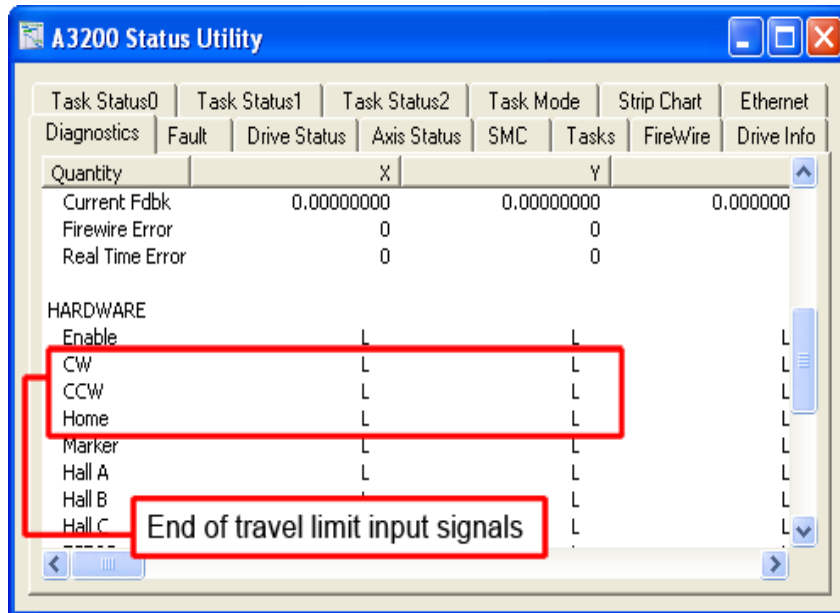

Figure 2-28: Limit Input Diagnostic Display
End of Travel (EOT) limits are required to define the end of the physical travel on linear axes. Positive or clockwise motion is stopped by the clockwise (CW) end of travel limit input. Negative or counterclockwise motion is stopped by the counterclockwise (CCW) end of travel limit input. The Home Limit switch can be parameter configured for use during the home cycle, however, the CW or CCW EOT limit is typically used instead. All of the end-of-travel limit inputs accept 5-24 VDC level signals. Limit directions are relative to the encoder polarity in the status display (refer to Figure 2-28).
If the EOT limits are reversed, you will be able to move further into a limit but be unable to move out. To correct this, swap the connections to the CW and CCW inputs at the J104 connector. The logic level of the EOT limit inputs may be viewed in the diagnostic display (shown in Figure 2-28).